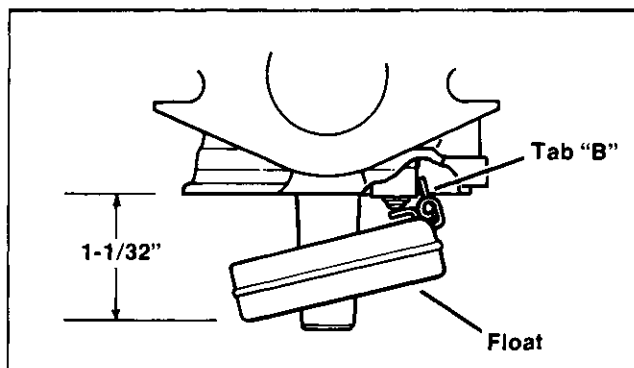

Figure 4-5. Setting Float Drop
3. **Set float drop.** With carburetor in normal operating position, float drop should be limited to  $1-1/32"$  between machined surface of casting and free end of float. Adjust by bending float tab "B." See Figure 4-5.